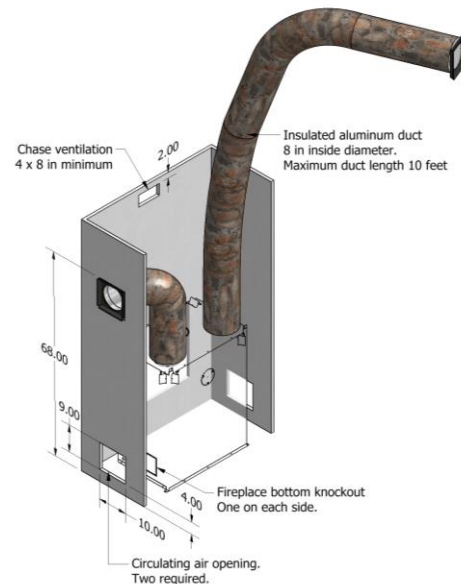

Figure 14 – Gravity Kit Installation for Clean Face Configuration
- The hot air grilles of the Gravity Kit should be at least 68 inches from the floor and the ducting should have a maximum length of 10 feet (see figure 14).